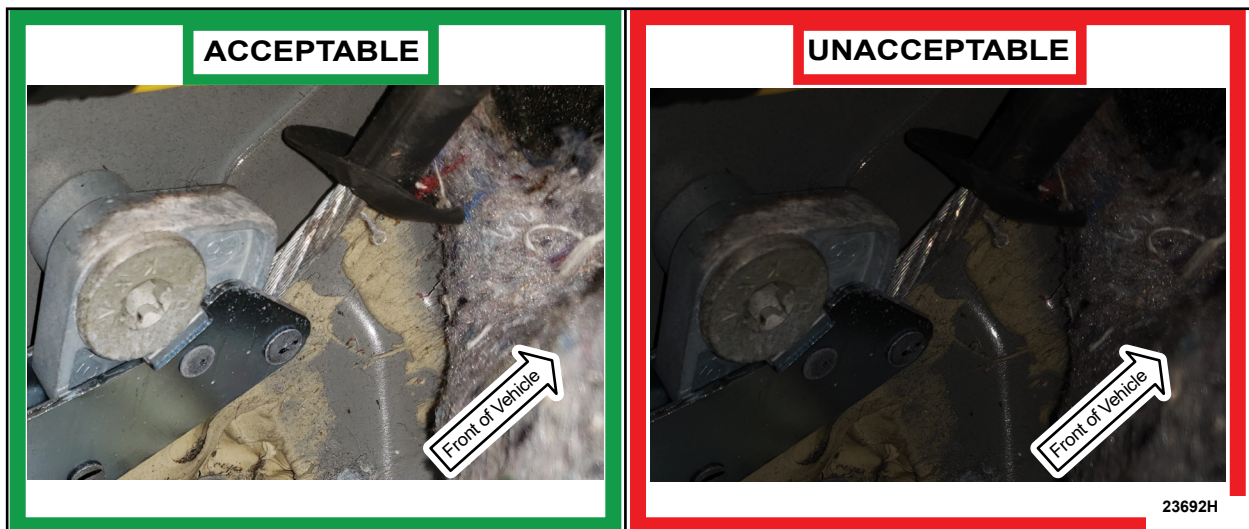

FIGURE 7
13. Capture a clear image of the steel braided cable on the seatbelt pretensioner on both sides of the vehicle. See Figure 7.